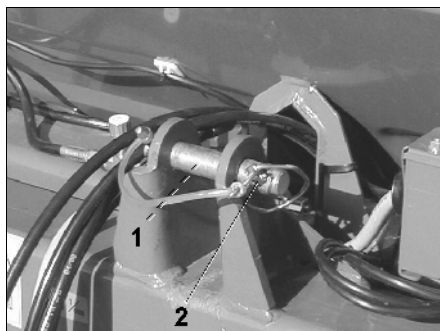

Fig. 21
- Fix upper link with link pin (cat. III) (Fig. 21/1) and secure by using a clip pin (Fig. 21/2).